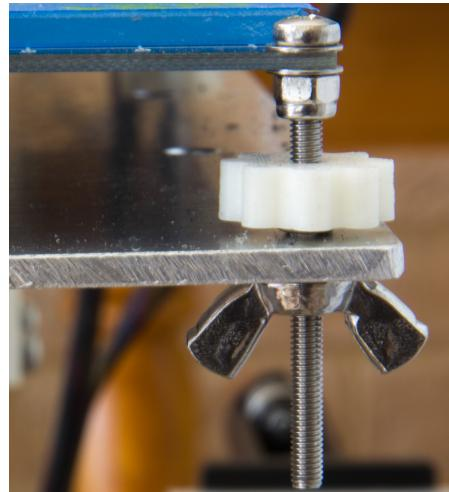

Figure 7: Heated bed leveling
4. Assemble as follows: Screw-Washer-Heatbed-Washer-Nyloc Nut-Gap-Nyloc Nut(in thumbwheel)-aluminium plate-M3 Wing nut. I prefer not to use springs and adjust the height with the thumbwheels and then tighten the wing nut. See Figure 7